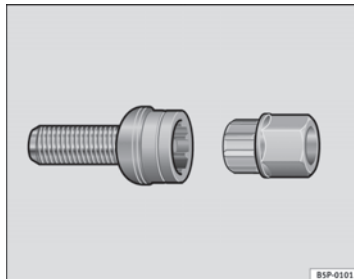

Fig. 200 Anti-theft wheel bolt
- Insert the adapter onto the wheel bolt and push it on as far as it will go ⇒ Fig. 200.